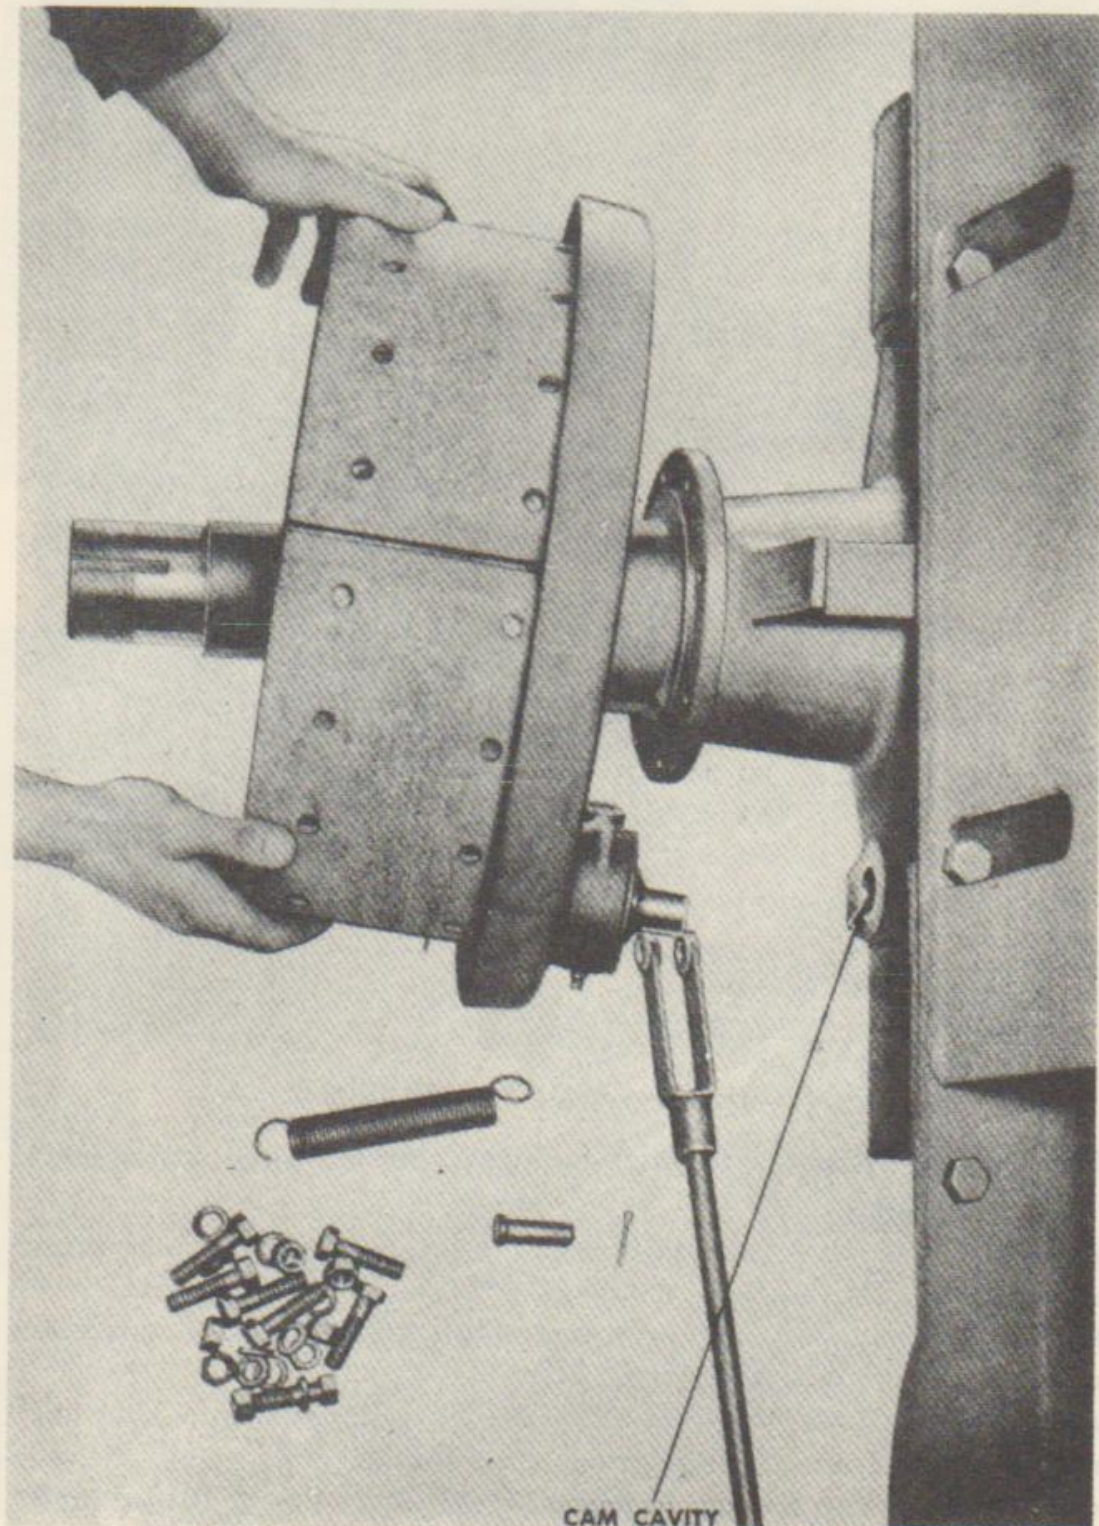

FIGURE 40. REMOVING BRAKE ASSEMBLY
- (3) Remove cap screws, nuts and lock washers that hold the brake assembly to axle flange, and lift the brake assembly off axle spindle (fig. 40).
(4) Place a small amount of grease in cavity on front side of trunnion axle (fig. 40). Position brake assembly on trunnion axle spindle, and enter the camshaft into cavity. Aline holes in brake spider with holes in axle flange, and install the cap screws, lock washers and nuts.